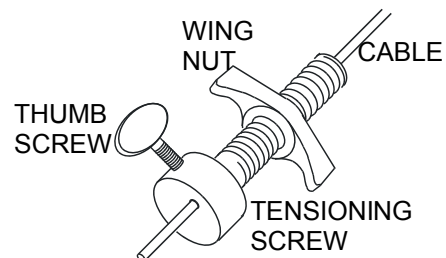

Figure 61
4. Feed each bare cable end into the hole at the threaded end of the cable tensioning screw (see **Figure 61**).
6. Whilst holding the cable tensioning screw in the box pull the cable taught and, without releasing the tension, tighten the thumb screw firmly (see **Figure 61**). Repeat this procedure with the other cable.